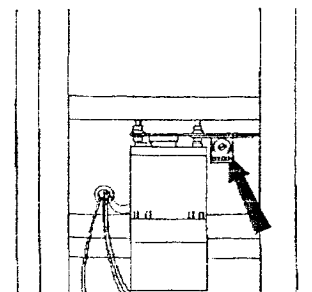

Fig. 10
- D. Use a screw driver to adjust warmer or colder as needed. It is suggested that small adjustments be made. NOTE: Turn clockwise to achieve a colder setting and counter clockwise to achieve a warmer setting. Use one full turn colder or warmer at a time until desired consistency is achieved (See Fig. 10).